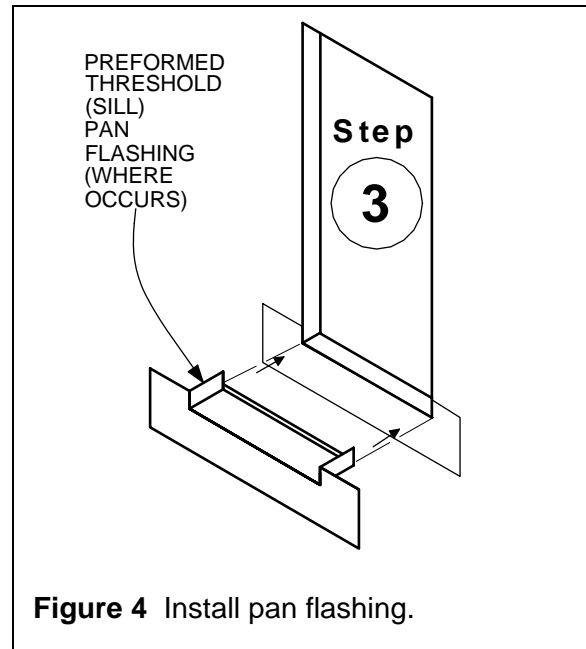

Figure 4 Install pan flashing.
Step 3. Install preformed threshold (sill) pan over Polyken® or Nashua® sill flashing. Do not fasten pan through horizontal portion of pan (see Figure 4).